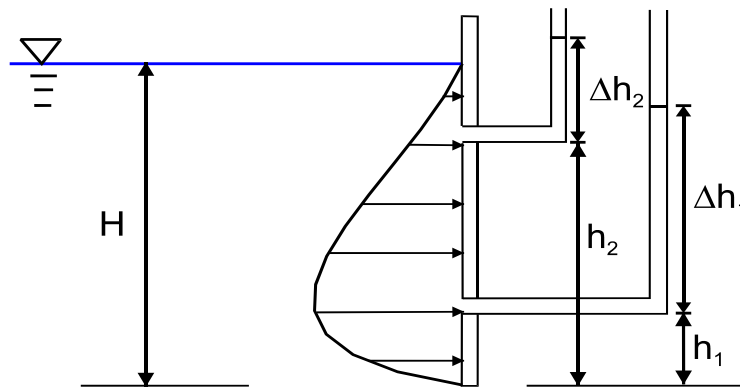

Figure 5: Close-up of Sluice Gate
- b. Calculate the static pressures along the gate's surface. The pressure,  $P$ , at each tap location is related to the height of water in the manometer using hydrostatic principle ( $P = \gamma_w \Delta h$ ). Figure 5 illustrates the calculation of  $\Delta h$  for each tap.